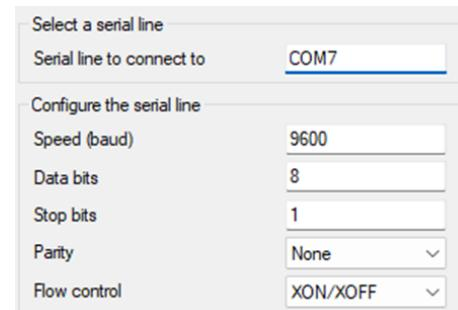

Figure 3.3: PuTTY: connection>serial
7. Navigate to 'Connection>Serial', and copy the communication settings seen in Figure 3.3 into PuTTY. Use the acquired COM-port.